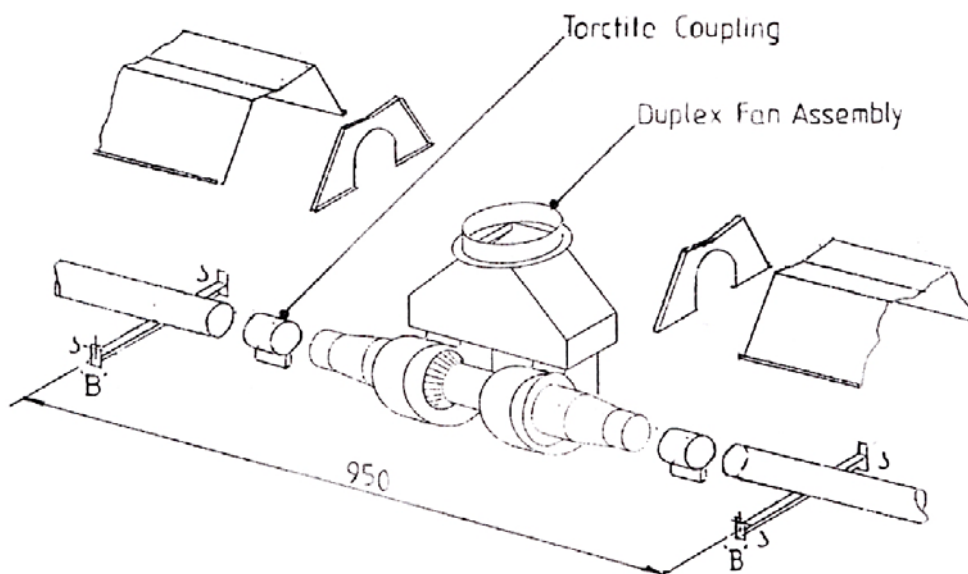

Fig. 15
- 4.3.9 Place one Torctite Coupling over the open end of each Radiant Tube, ensuring that they engage fully (up to the stop). Assemble the Duplex Fan Assembly to the Radiant Tubes, ensuring that it engages fully into each Torctite Coupling (up to the stops) and has the exhaust outlet positioned to suit the flue requirement, i.e. either vertical or horizontal to either side. Tighten the screws of the Torctite Coupling to secure the Duplex Fan Assembly to the two Radiant Tubes, taking care to support the Duplex Fan Assembly in line with the axis of the tubes. (see Fig. 15)